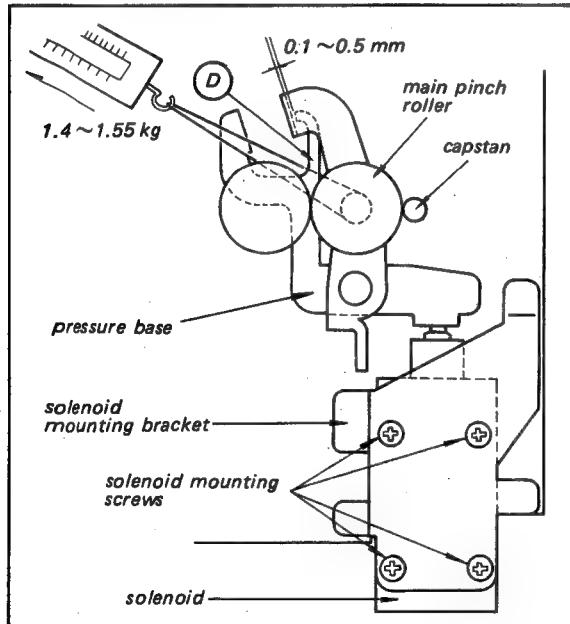

Fig. 7-17 Pinch roller adjustment
1. Make a loop in a piece of string and attach the spring scale around the base of the pinch roller shaft. See. Fig. 7-17. Use 4 kg spring scale (SONY Part No. 9-911-042-01).
3. Pull the scale in the direction indicated by the arrow in Fig. 7-17. Check the reading when the pinch roller leaves the capstan. It should be in between 1.4 kg and 1.55 kg. If not, proceed to Step 4.
4. Loosen four screws in Fig. 7-17. Move the solenoid downwards when the reading is too low. Tighten the screws.
5. Check for  $0.1 \sim 0.5$  mm clearance between the pressure base and pinch roller base. If not, bend (D) with pliers.